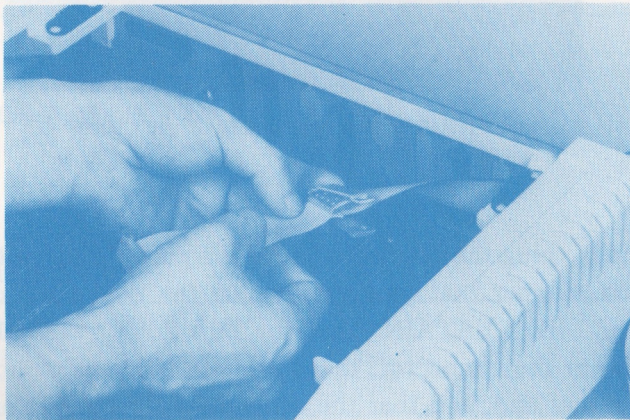

FIGURE 4 Placing the Clamp over the Metal Flap
- FIGURE 4 : Placing the Clamp over the Metal Flap
- G) Place the cable and folded-over metal flap into the clamp so that the flap is pressed against the cable and positioned between the two sides of the clamp. (You may need to spread the clamp open slightly to allow room for the flap. See Figure 4.)